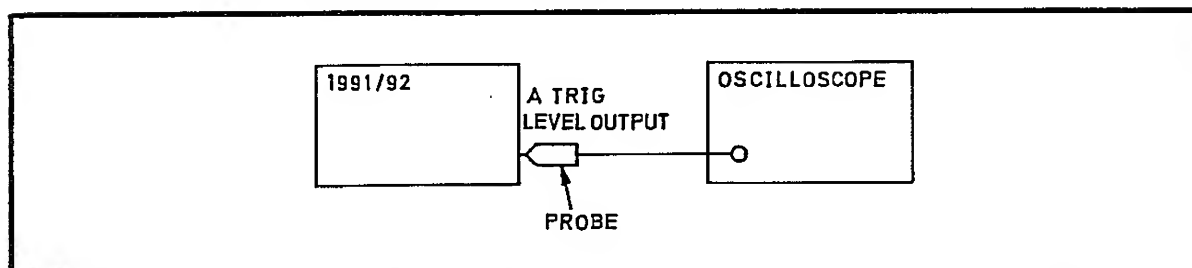
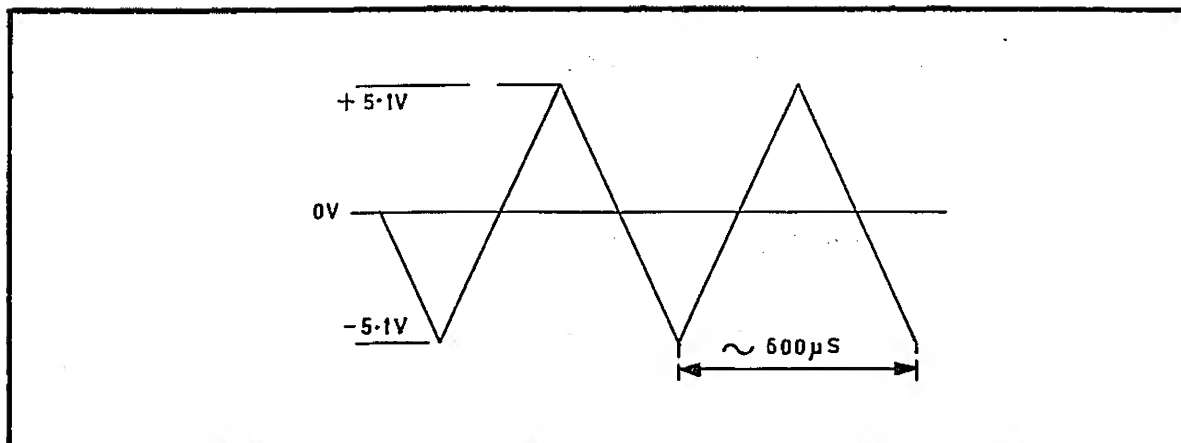

Fig 7.23 Connections for Trigger Level PVP
Fig 7.24 Trigger level Waveform
- 61 (1) Connect the test equipment as shown in Fig 7.23.
- (2) Select DC coupling of the oscilloscope input.
- (3) Set the oscilloscope to monitor a waveform of approximately 12 V peak-to-peak with a frequency of approximately 2 Hz.
- (4) Select CHECK.
- (5) Press 7 6 SHIFT STORE SF SHIFT SF
- (6) Verify that the channel A and B TRIG indicators are flashing, and that the displayed waveform is as shown in Fig 7.24.
- (7) Transfer the oscilloscope probe to the channel B TRIG LEVEL OUTPUT pin and verify that the same waveform is displayed.
- (8) Press 7 0 SHIFT STORE SF SHIFT SF
- (9) Disconnect the test equipment.